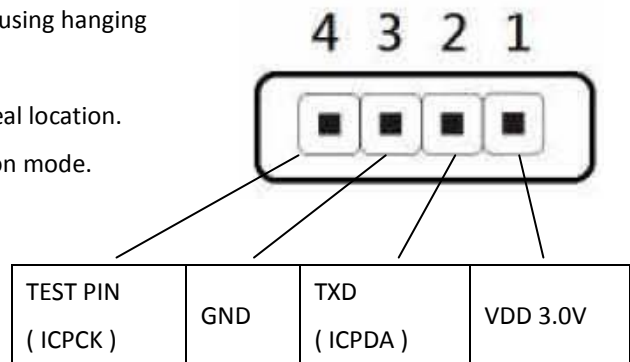

Fig. 3
2. Referring to Fig. 3, short Test Pins 3 and 4 to enter calibration mode.